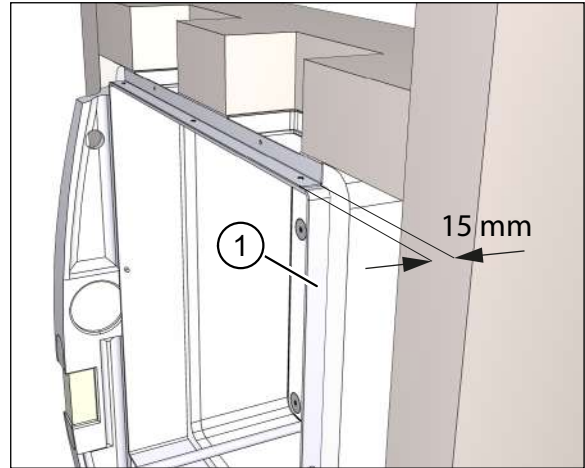
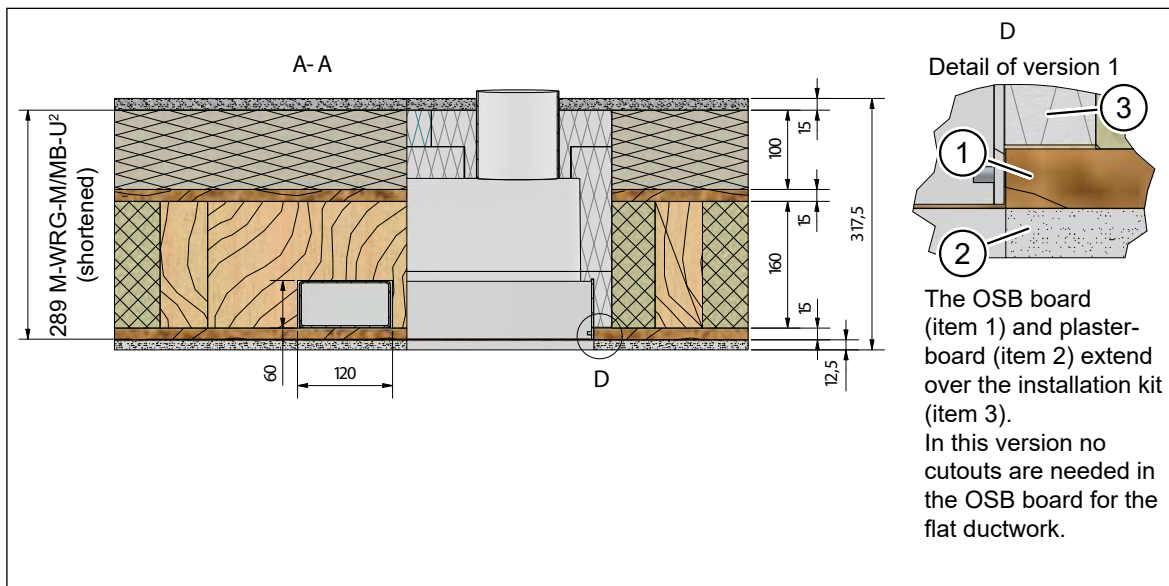
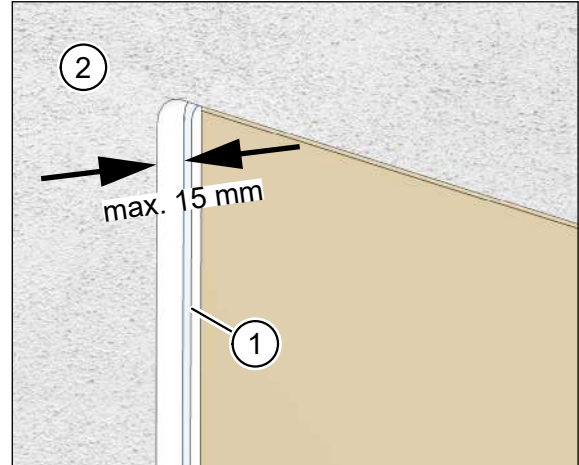

Fig. 49: Depth of plastering trim 15 mm
Fig. 50: Plastering trim and internal wall cladding ending flush
Fig. 60: The cladding must not protrude more than 15 mm
- ▶ Push the wall box between the two battens so that the plastering trim (item 1 in Fig. 49) will end flush with the eventual internal wall cladding (e.g. OSB board + plasterboard) or so that the internal wall cladding will protrude slightly above the plastering trim (see section A-A and detail D in Fig. 50 and Fig. 60 on page 49).
- The plastering trim is 15 mm deep (see Fig. 49).
- The plasterboard (item 2 in Fig. 60) must NOT protrude more than 15 mm above the plastering trim (item 1 in Fig. 60).